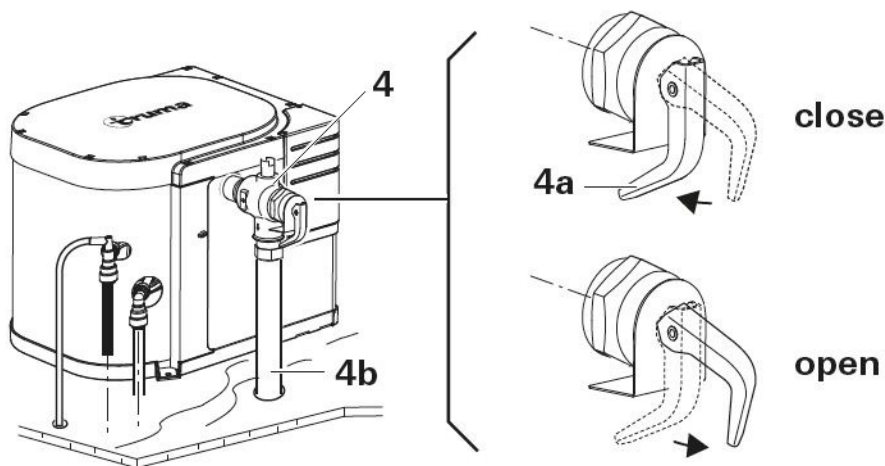

Fig. 2a
Check that the drain valve (3) and the P&T safety valve (Fig.2a - 4) in the cold water intake are closed.
- Test lever (Fig. 2a - 4a) of the pressure relief valve (4) must be in the “close” position.
- Do not place a plug or reducing coupling in the discharge pipe (Fig. 2a - 4b) of the P&T safety valve.